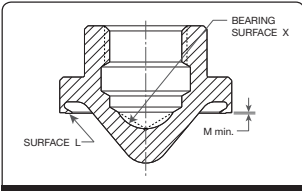

Figure 14
- (ii) The ThermoDisc™ can not be machined. If, after lapping, Dimension M, in Figure 14, does not meet the minimum specified in Table 5, the disc should be replaced.